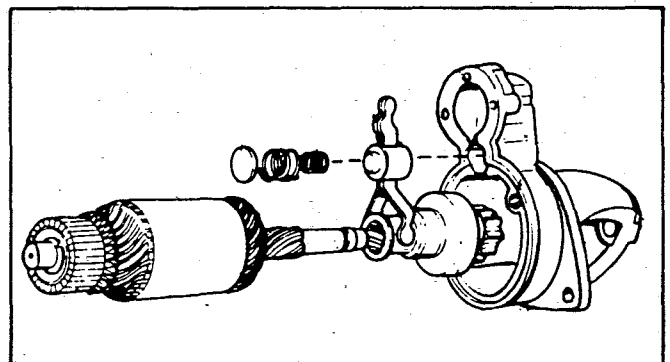

FIGURE 18. REMOVING ARMATURE
3. The armature can easily be removed from the front bracket. Be careful not to miss a small steel washer used in the end of the armature shaft. The shift lever can be removed along with the armature when it is removed. In this case, the spring holder, lever springs and retainer can be taken out before the lever. See Figure 18.